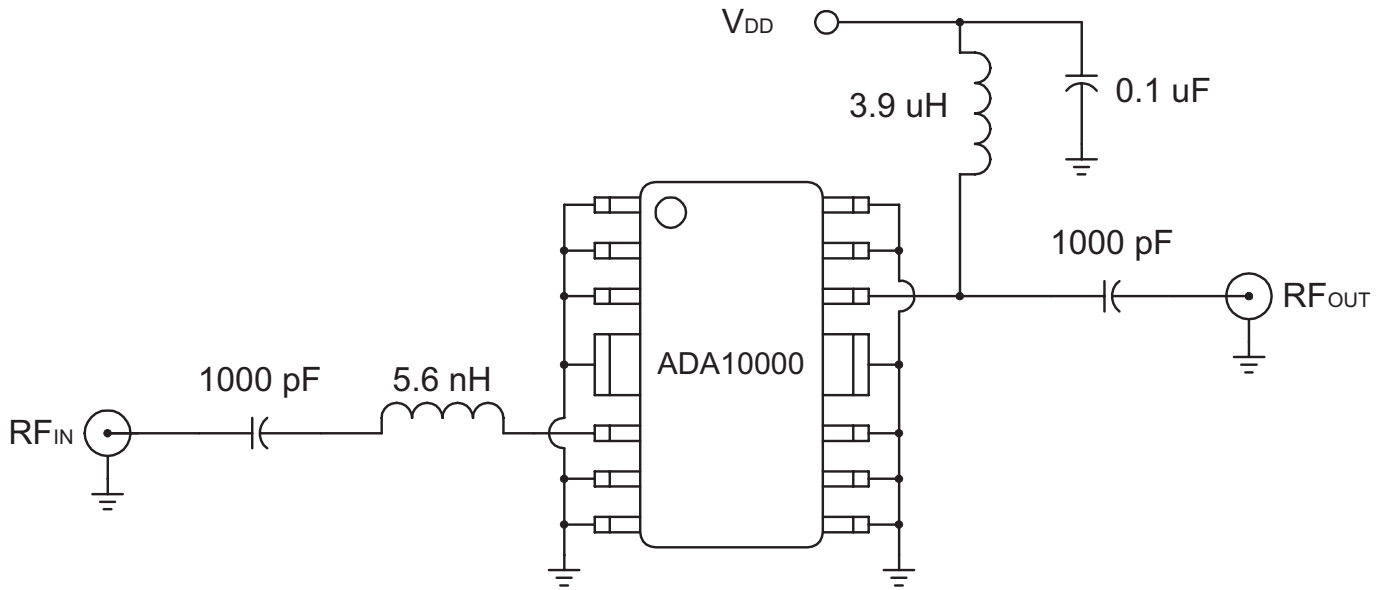

Figure 4: Test Circuit - S3 Packaged Device (75 Ω terminations)
(1) Median time to failure will degrade above this temperature.
**(TA = +25 °C, VDD = +8 VDC, 75 Ω system, see Figures 4 and 5)**
**PERFORMANCE DATA** As measured in test circuits shown in Figures 4 and 5.